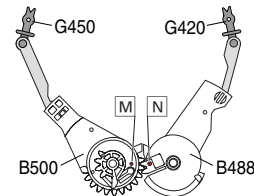

Fig. 18
- Slide the threading roller units (G420 / G450, Fig. 18) in the "Thread" position then remove the threading arms (B500 / B488).
- Insert the threading arms so that the holes (M / N) (Fig. 18) face each other in the "Thread" drive mechanism position.